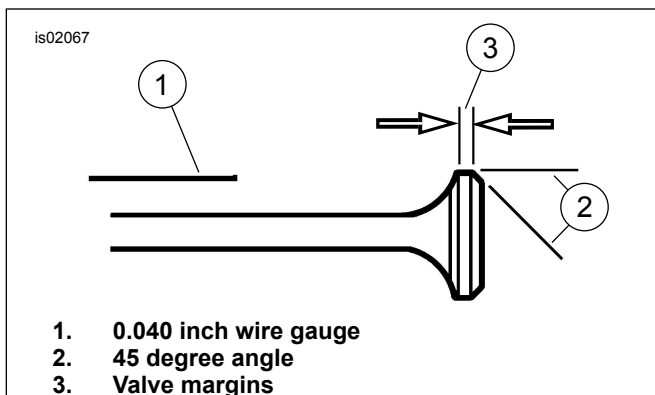

Figure 1. Beveling Valve Heads
See Figure 1. If it is necessary after inspection to grind the intake and exhaust valves in order to meet the 1.016 mm (0.040 in) clearance between the two valve heads, measure the margins (3):